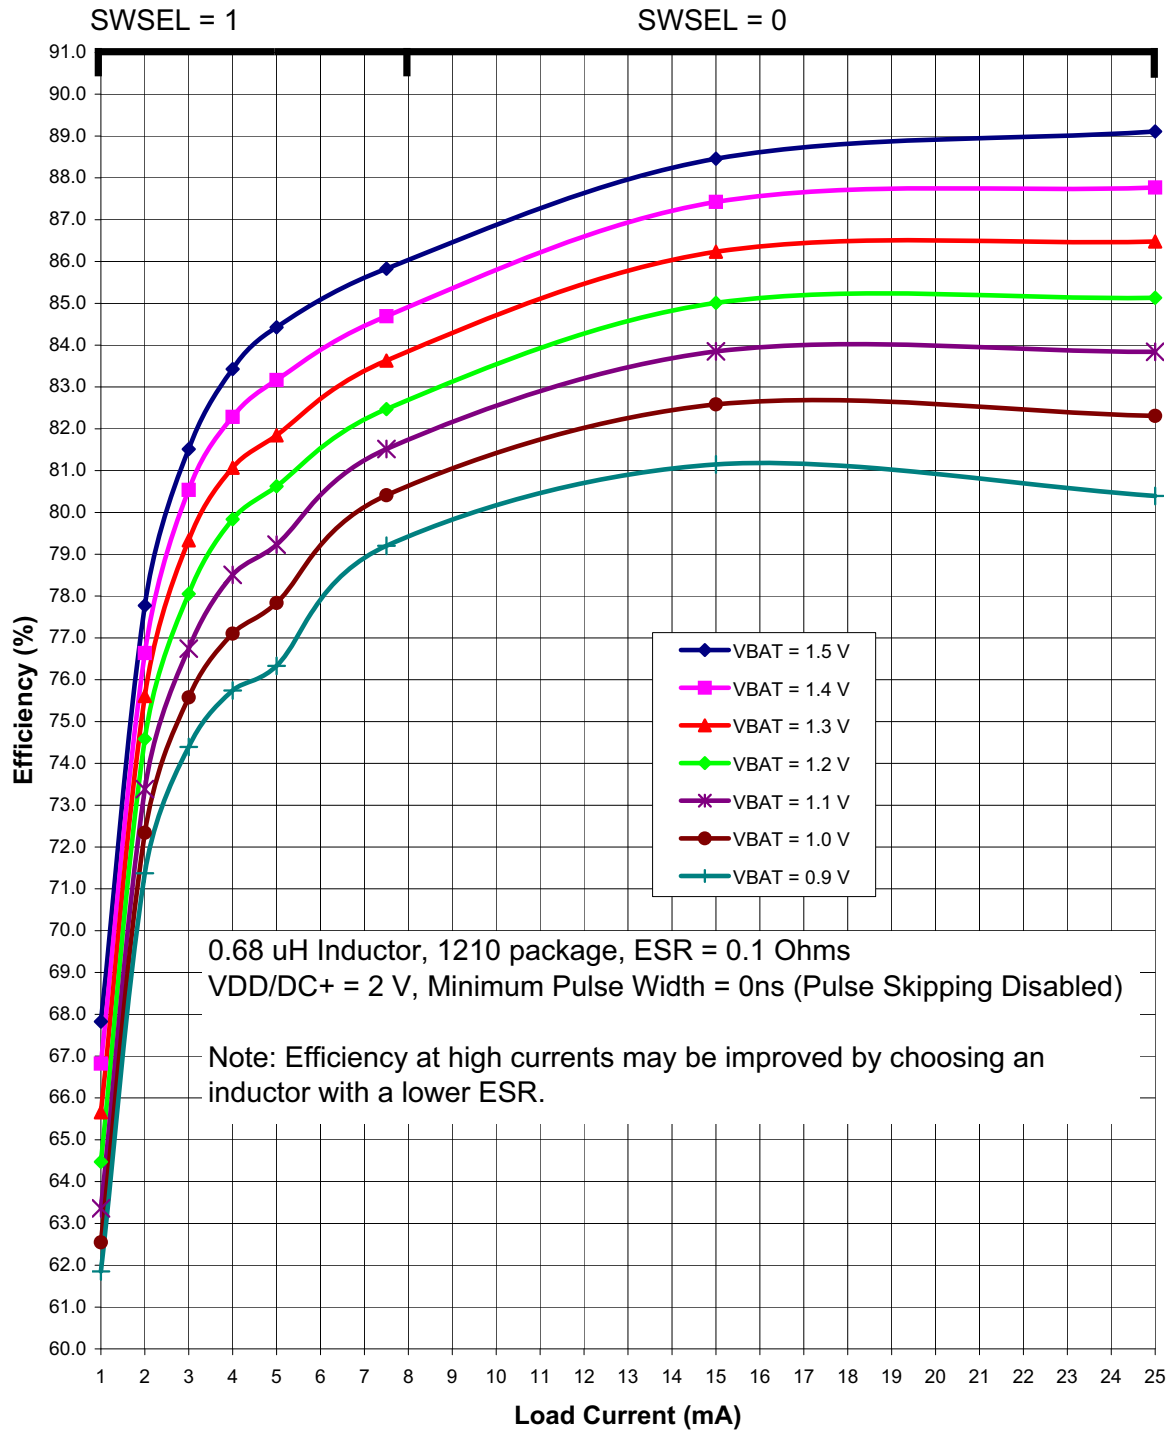
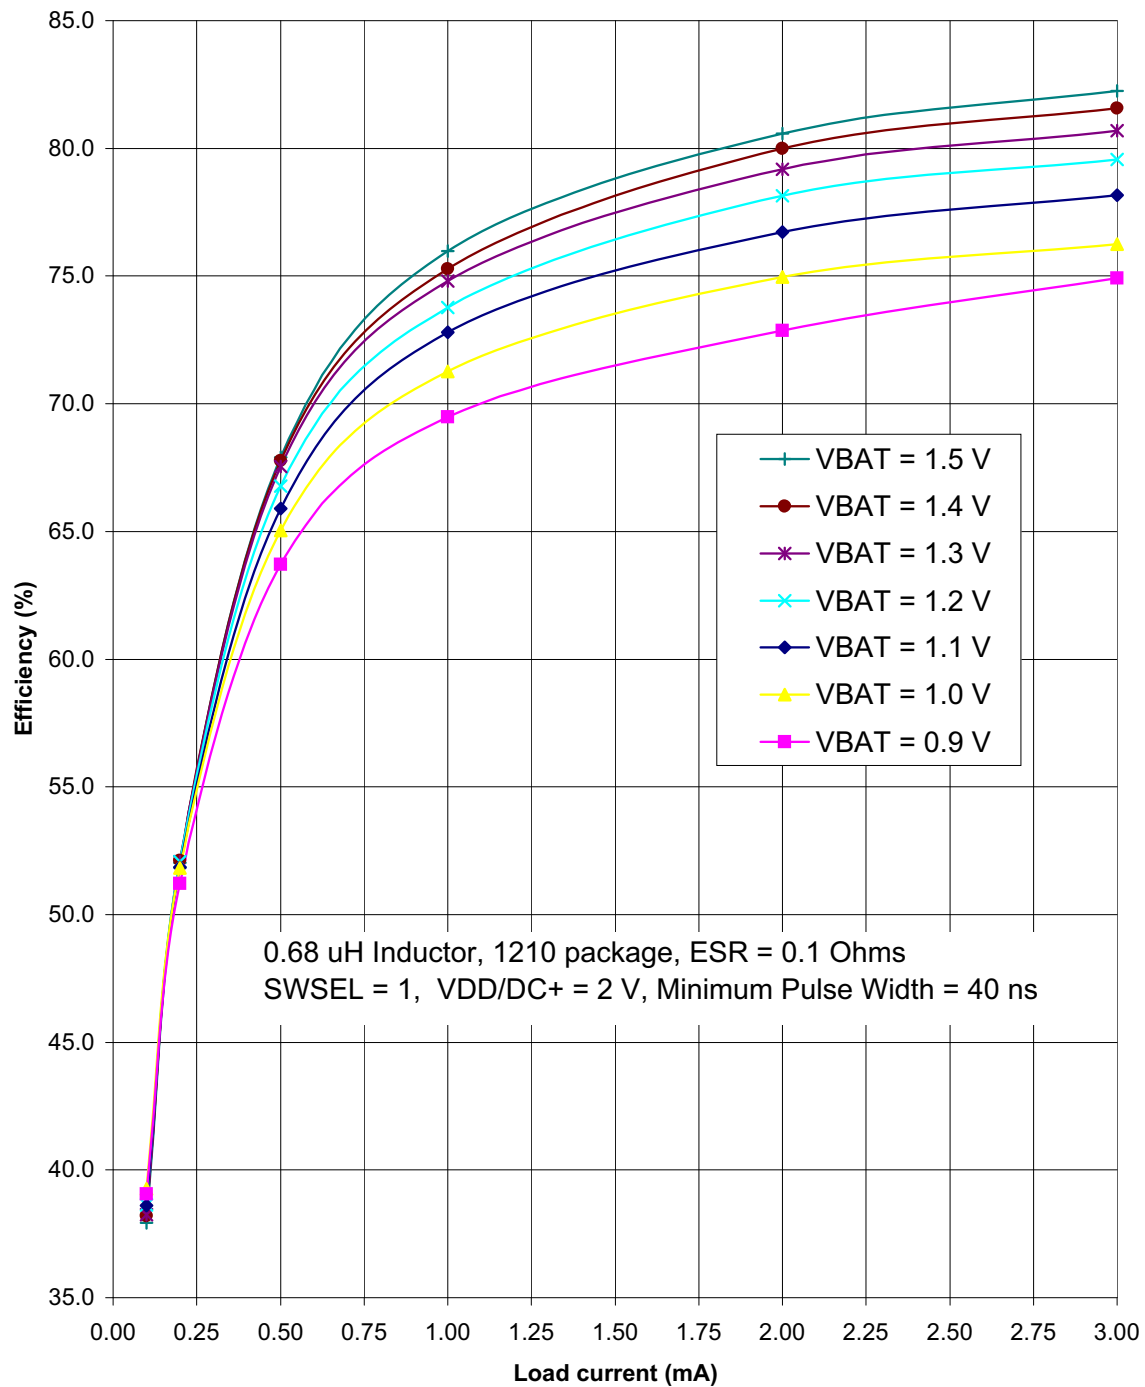

Figure 4.3. Typical DC-DC Converter Efficiency (High Current, VDD/DC+ = 2 V)
Figure 4.5. Typical DC-DC Converter Efficiency (Low Current, VDD/DC+ = 2 V)
Notes: 1. Based on device characterization data; Not production tested. 2. SYSCLK must be at least 32 kHz to enable debugging. 3. Digital Supply Current depends upon the particular code being executed. The values in this table are obtained with the CPU executing an "sjmp \$" loop, which is the compiled form of a while(1) loop in C. One iteration requires 3 CPU clock cycles, and the Flash memory is read on each cycle. The supply current will vary slightly based on the physical location of the sjmp instruction and the number of Flash address lines that toggle as a result. In the worst case, current can increase by up to 30% if the sjmp loop straddles a 64-byte Flash address boundary (e.g., 0x007F to 0x0080). Real-world code with larger loops and longer linear sequences will have few transitions across the 64-byte address boundaries. 4. Includes oscillator and regulator supply current. 5. IDD can be estimated for frequencies ≤14 MHz by simply multiplying the frequency of interest by the frequency sensitivity number for that range, then adding an offset of 90 µA. When using these numbers to estimate I_{DD} for >14 MHz, the estimate should be the current at 25 MHz minus the difference in current indicated by the frequency sensitivity number. For example: V_{DD} = 3.0 V; F = 20 MHz, I_{DD} = 4 mA – (25 MHz – 20 MHz) × 0.102 mA/MHz = 3.5 mA assuming the same oscillator setting. 6. The supply current specifications in Table 4.2 are for two cell mode. The VBAT current in one-cell mode can be estimated using the following equation: $\text{VBAT Current (one-cell mode)} = \frac{\text{Supply Voltage} \times \text{Supply Current (two-cell mode)}}{\text{DC-DC Converter Efficiency} \times \text{VBAT Voltage}}$ The VBAT Voltage is the voltage at the VBAT pin, typically 0.9 to 1.8 V. The Supply Current (two-cell mode) is the data sheet specification for supply current. The Supply Voltage is the voltage at the VDD/DC+ pin, typically 1.8 to 3.3 V (default = 1.9 V). The DC-DC Converter Efficiency can be estimated using Figure 4.3–Figure 4.5. 7. Idle IDD can be estimated by taking the current at 25 MHz minus the difference in current indicated by the frequency sensitivity number. For example: V_{DD} = 3.0 V; F = 5 MHz, Idle I_{DD} = 2.1 mA – (25 MHz – 5 MHz) × 0.079 mA/MHz = 0.52 mA. 8. Internal LFO only available on 'F912 and 'F902 devices. 9. Ability to disable VBAT supply monitor only available on 'F912 and 'F902 devices.